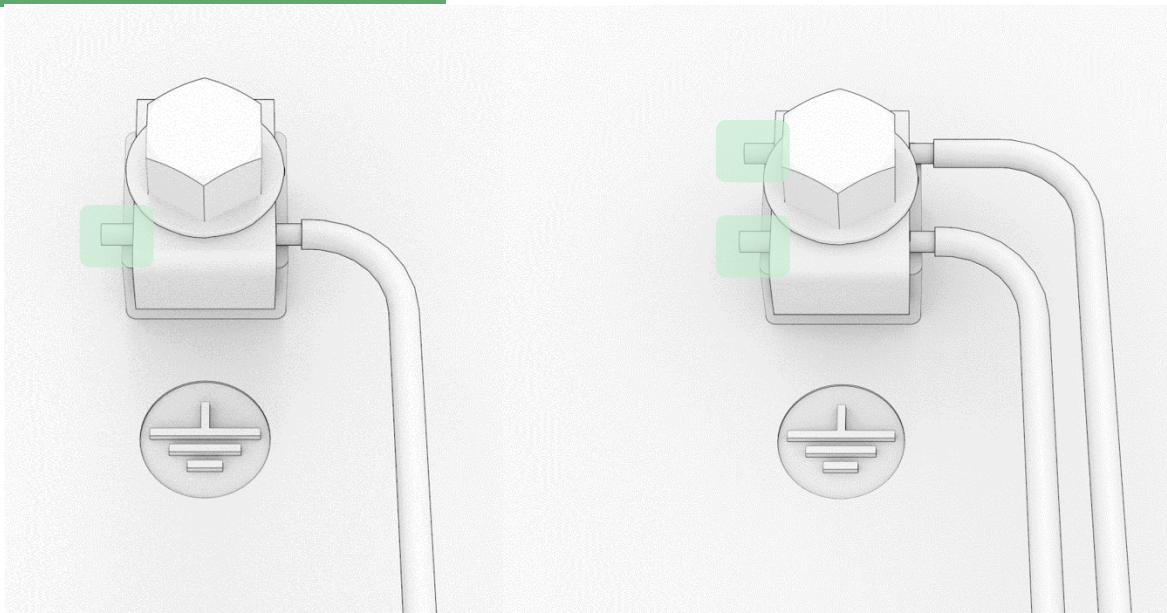

Figure 14
3. Strip the ground wire to $\frac{5}{8}$ " (16mm). Loosen the grounding screw and place the grounding wire between the grounding post and grounding saddle washer. If two grounding wires are used, place one on each side of the grounding screw as shown. Tighten the screw to 50 in-lb (roughly 6Nm) and ensure the ground cable extends past the saddle washer by $\frac{1}{8}$ " as highlighted in Figure 14. **DO NOT OVERTIGHTEN THE GROUND SCREW.**